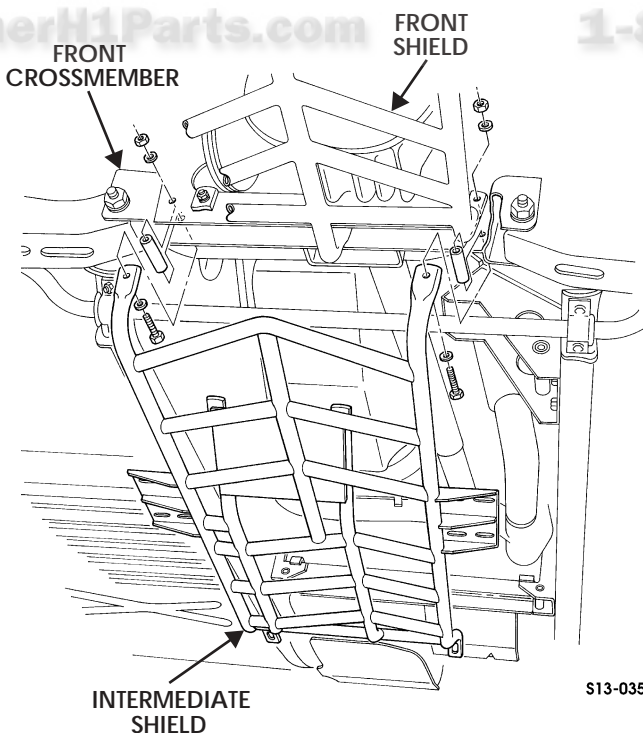

Figure 13-38: Intermediate Shield
6. Remove two locknuts, washers, capscrews, washers, spacers, and intermediate shield from front crossmember and front shield. Discard locknuts (Figure 13-38)
1. Install intermediate shield to front crossmember and front shield with two spacers, washers, capscrews, washers, and locknuts. Tighten locknuts to 44 lb-ft (60 N•m) (Figure 13-38).